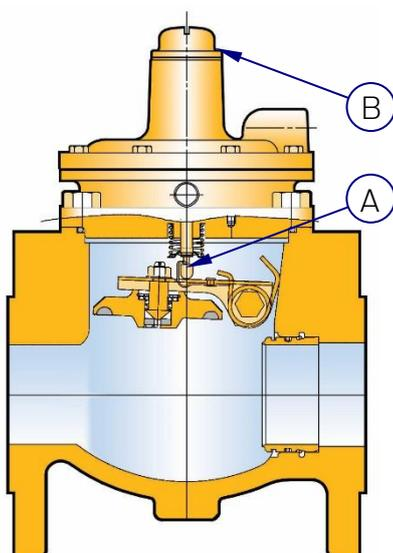

Fig. 2
VALVE OPERATION (Fig 2).
When the valve is satisfactorily re-armed the valve position indicator will move from the window ((B) Fig 2).